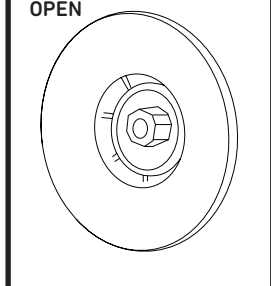

Fig. 2
6. Make sure the pump valve is in the position CLOSE (Fig. 2).